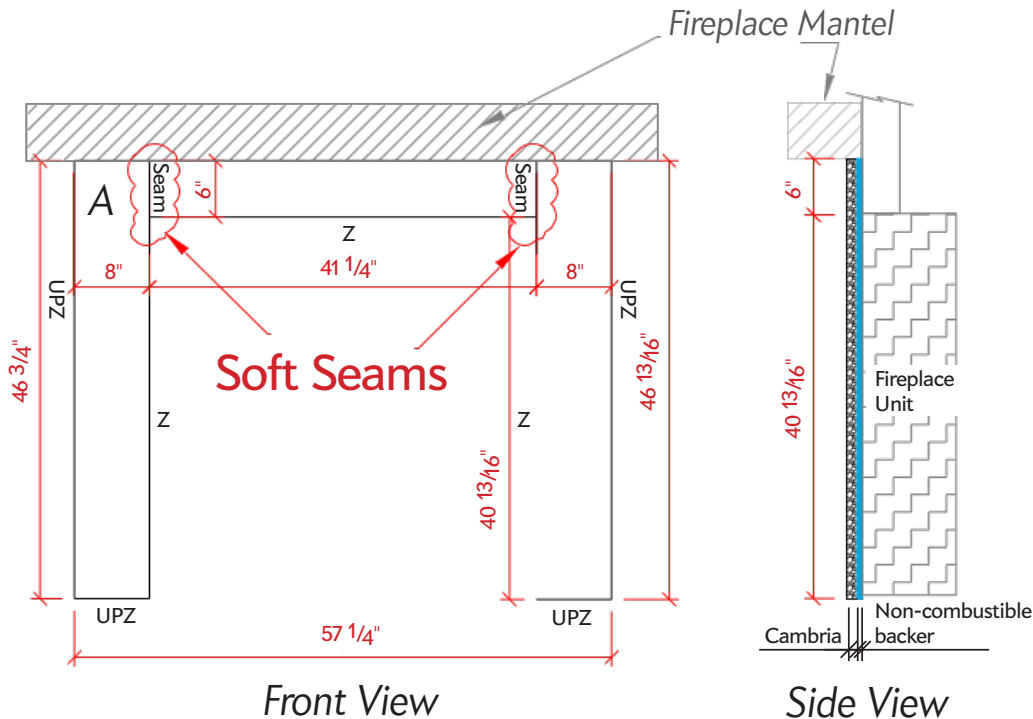

Figure 6
- a. The height of the keystone piece may be less than the 10" requirement when a mantel is incorporated into the finished fireplace. See **Figure 6**.